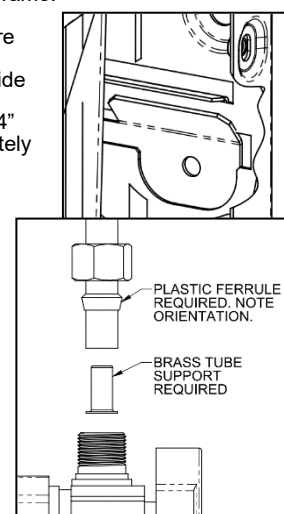

Figure 2: Supply Valve Connection
- With the cooler laying on its back, remove the (4) screws holding the skirt to the bottom of the frame. Then remove the skirt by sliding the skirt away from the cooler.
- Secure both the lower right and lower left ends of the cooler to the wall using at least (2) 1/4" or 3/8" structural screws. These screws should go through the holes which are approximately 5" from the bottom of the cooler. Washers may be required.
- Install the compression nut (included with your supply valve), followed by the plastic ferrule (supplied), and the brass tube support (supplied) onto the inlet line. Note the correct orientation of the plastic ferrule, as shown in Figure 2. Do not use the brass ferrule included with your supply valve.